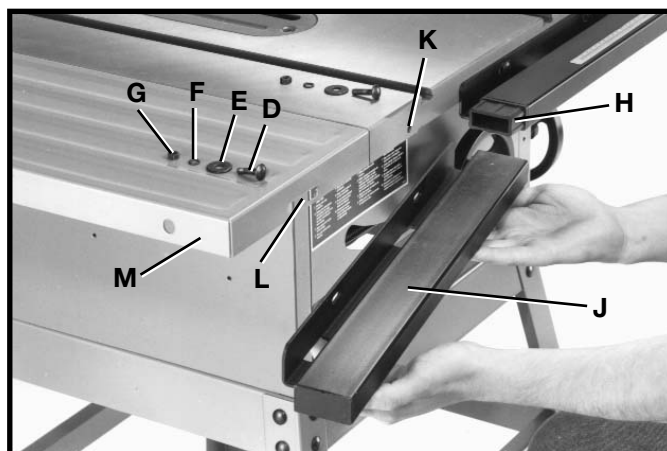

Fig. 16
3. Assemble front guide rail extension (J) Fig. 16, onto extension connector (H). Align 2 slotted holes in guide rail extension (J) Fig. 16 with hole (K) in table and slotted hole (L) in left extension wing (M), and fasten with two 20MM long carriage bolts (D), flat washers (E), lockwashers (F), and hex nuts (G). **NOTE: DO NOT COMPLETELY TIGHTEN HARDWARE AT THIS TIME. GUIDE RAIL ADJUSTMENT IS NECESSARY LATER.**